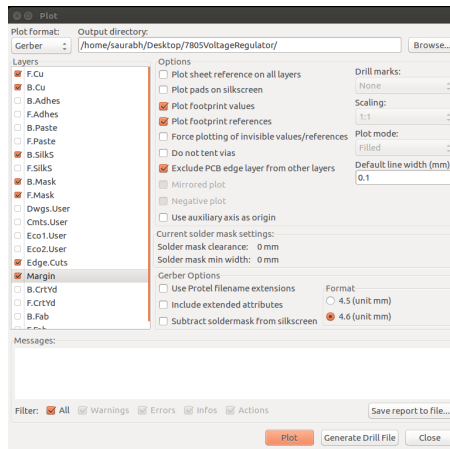

Figure 14.22: Plot Window before generating gerber files
3. Select F.Cu, B.Cu, B.Silks, F.Mask, B.Mask, Margin and Edge.Cuts from the Layers on the left side of the Plot window as shown in Fig. 14.22.